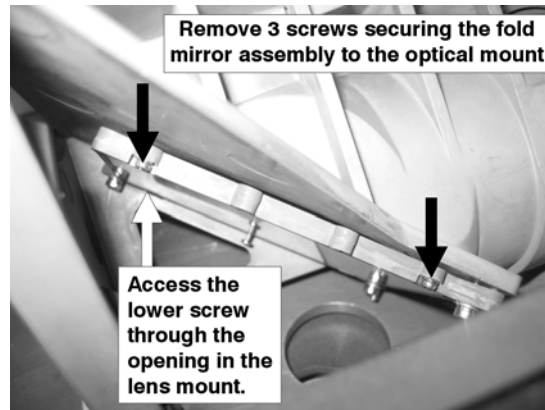

Figure 33. Removing the Fold Mirror
5. Remove the four (4) screws securing the fold mirror in place. (Figure 33) **TIP:** Use a short screwdriver, inserted through the opening in the lens mount, when accessing the bottom screws on the fold mirror.
2. Remove the rear air filter (four - #1 Philips screws – two top/two bottom) as shown in Figure 33.